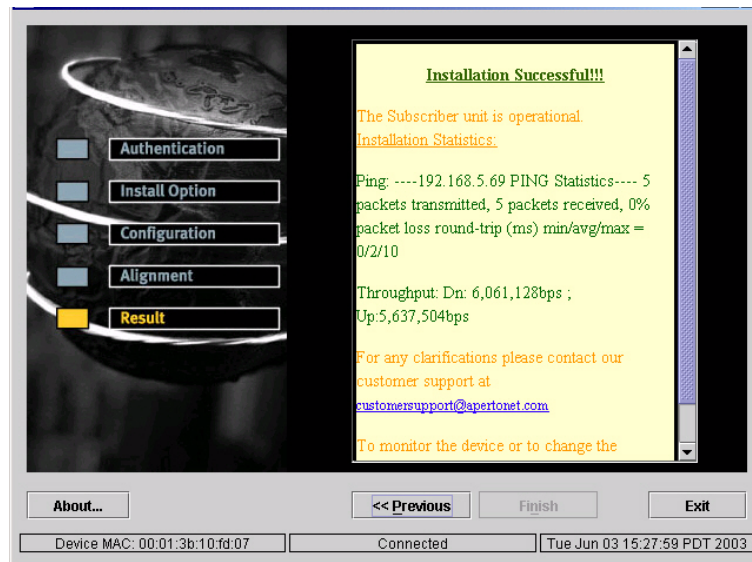

Figure 5-16 *Installation Results Window*
- f. When the throughput test is finished or stopped, the window shown in *Figure 5-16* is displayed, showing results of the ping and throughput tests.
NOTE: This window is the same as the Installation Results window shown in *Figure 5-16* on page -14.